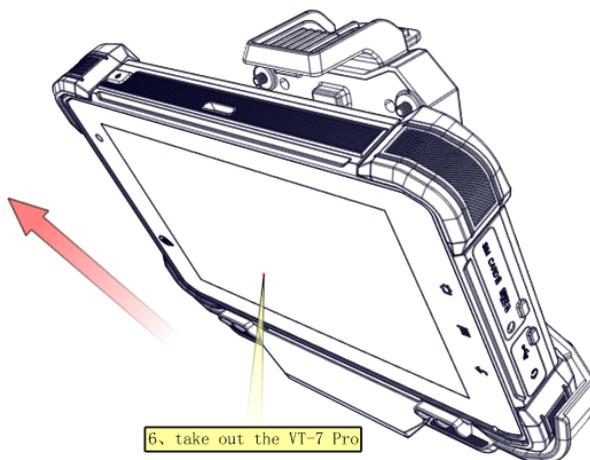

Fig. 4.6
4.2.2. Take out the device as Fig.4.6 shown.